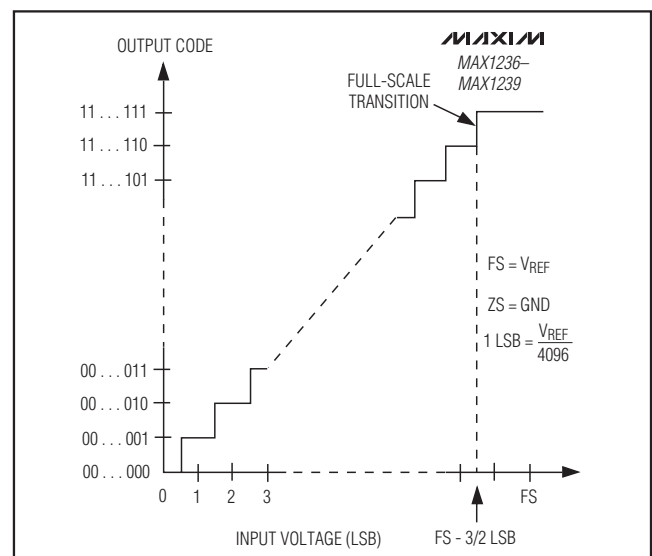

Figure 12. Unipolar Transfer Function
Output data coding for the MAX1236-MAX1239 is binary in unipolar mode and two's complement in bipolar mode with 1 LSB = (VREF/2N) where "N" is the number of bits (12). Code transitions occur halfway between successive integer LSB values. Figures 12 and 13 show the input/output (I/O) transfer functions for unipolar and bipolar operations, respectively.